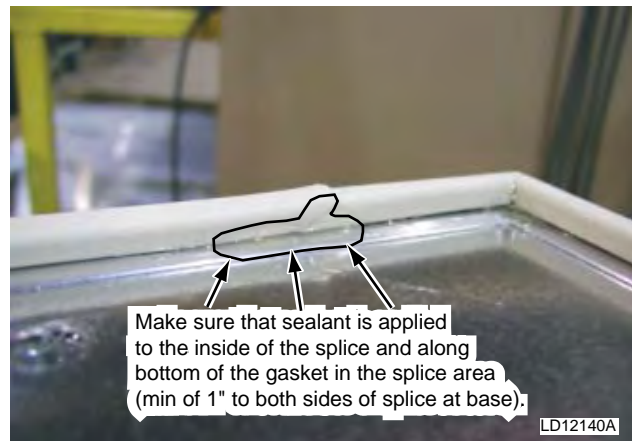

FIG. 5-39 – APPLY SEALANT TO SPLICE BASE
21. Apply sealant to the inside of the splice and along the bottom of the gasket in the splice area (minimum of 1" to both sides of splice at the base). See Fig. 5-39.